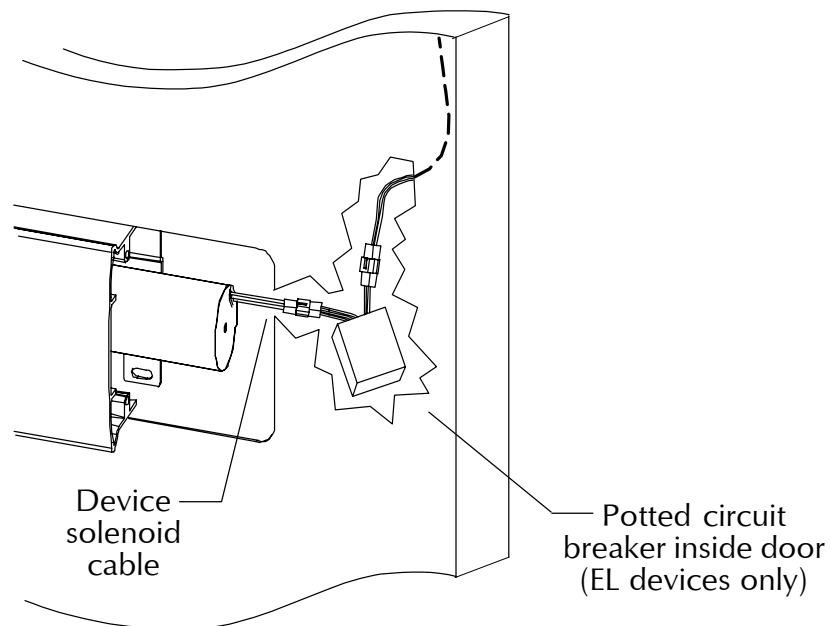

Figure 5-3
- 5.4. For EL devices, connect potted circuit breaker to device solenoid cable (Figure 5-3).